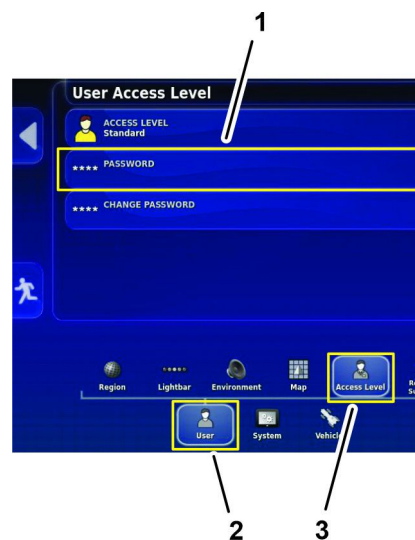

Figure 247
4. In the setup screen, press the USER icon and the ACCESS LEVEL icon (Figure 247).
5. Press the PASSWORD icon (Figure 247).